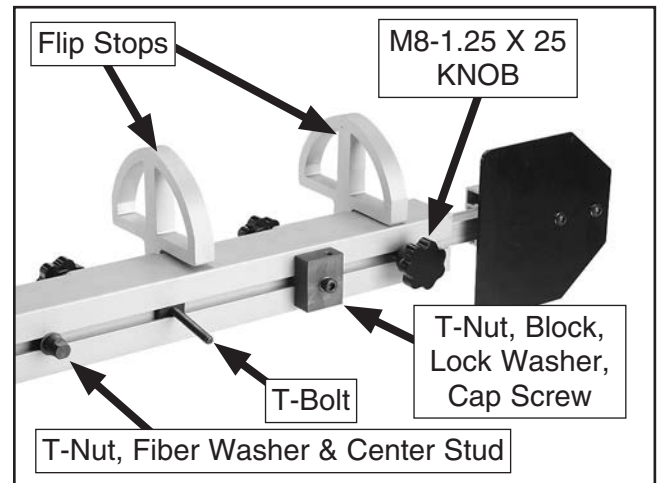

Figure 55. Crosscut fence assembly.
50. Install the components shown in **Figure 55** on the crosscut fence.